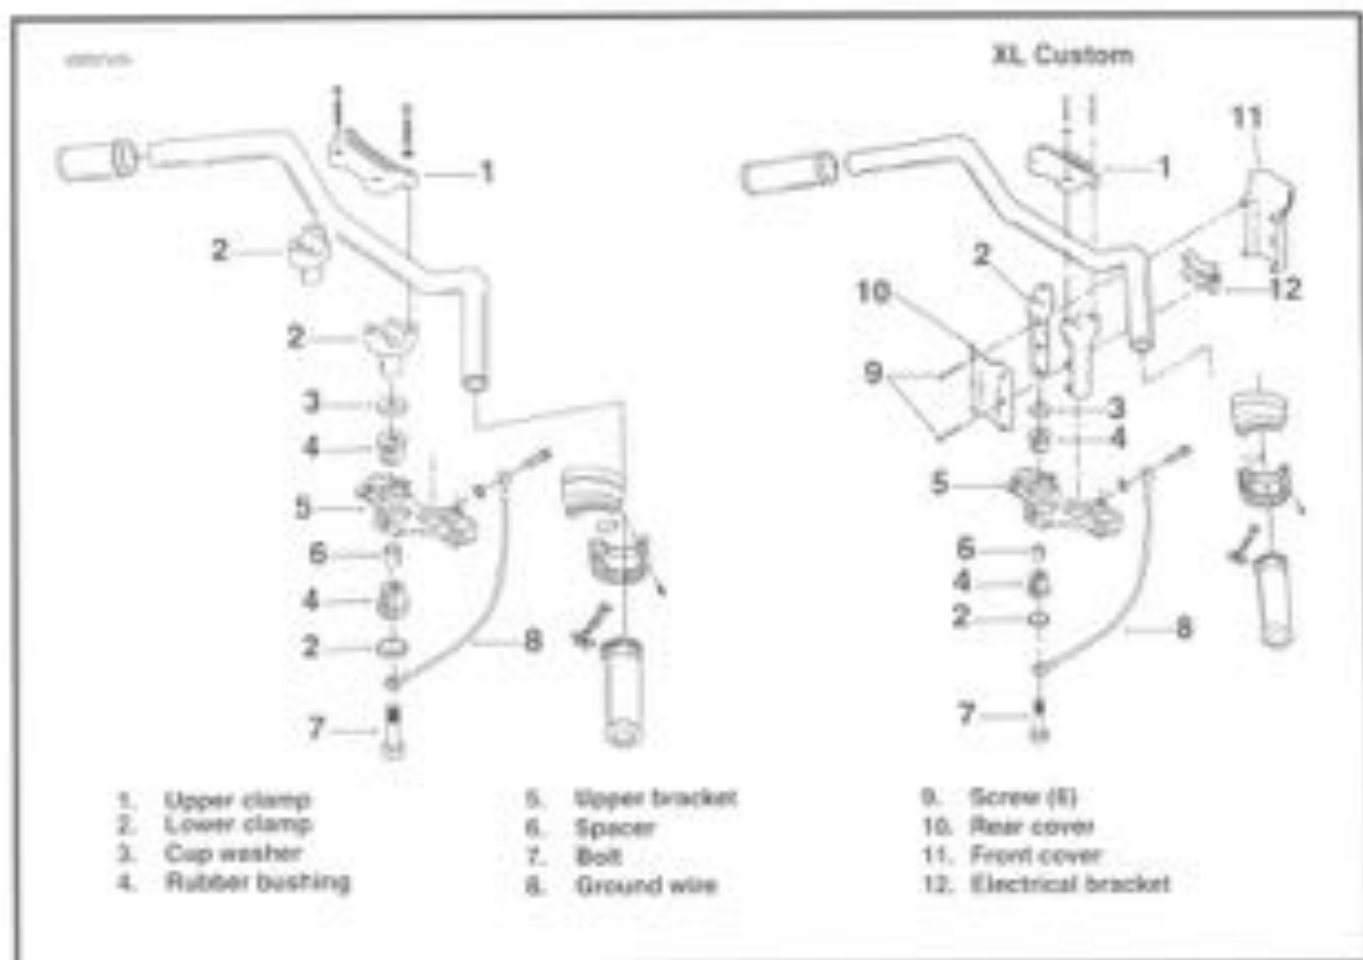

Figure 2-82.
2. See Figure 2-82. Remove left hand controls and switches. Let wrist carefully support the switches.
- Remove riser cover screws (9) and front and rear covers (10 and 11).
9. Loosen riser bolts (7). Remove cup washers (3), rubber bushings (4) and spacers (6).
10. Remove ground wire (8) from triple clamp.
1. See Figure 2-82. Install cup washers (3), rubber bushings (4) and spacers (6).
2. Insert riser bolts (7) (finger tight only).
4. Position handlebar on lower riser clamp (2).